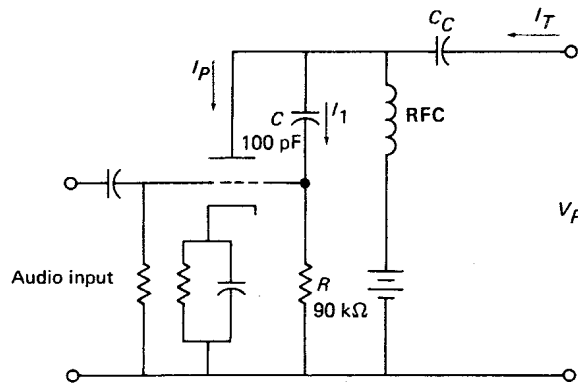

Fig. 4-18
- 4.59 The transconductance of the vacuum tube used in the reactance tube modulator of Fig. 4-18 is made to vary from  $2800 \mu\text{S}$  to  $4300 \mu\text{S}$ . Calculate the range of equivalent capacitance it presents. *Ans.* 25.2 nF, 38.7 nF
- 4.60 Determine the swing in equivalent capacitance presented by the circuit of Fig. 4-18 if the tube used has a transconductance that ranges from  $1500 \mu\text{S}$  to  $1900 \mu\text{S}$ . *Ans.* 13.5 nF, 17.1 nF
- 4.61 If the resistance and capacitance values of Fig. 4-18 were changed to  $110 \text{k}\Omega$  and  $150 \text{pF}$  and the range of transconductance of the tube was from  $3100 \mu\text{S}$  to  $4000 \mu\text{S}$ , calculate the range of equivalent capacitance presented by this circuit. *Ans.* 51.15 nF, 66 nF